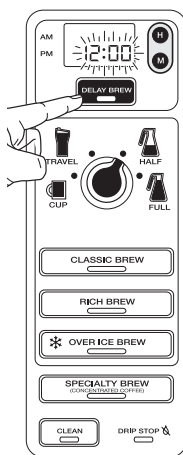

Fig. 2
- 2 Press the H (hour) or M (minute) button until you reach the current time. The AM or PM indicator will illuminate on the left side of the display as you are setting the time. **(Fig. 2)**
- 1 Press Delay Brew. The Delay Brew button will illuminate and the clock will begin to flash "12:00" or the last delay brew time that was set. **(Fig. 2)**